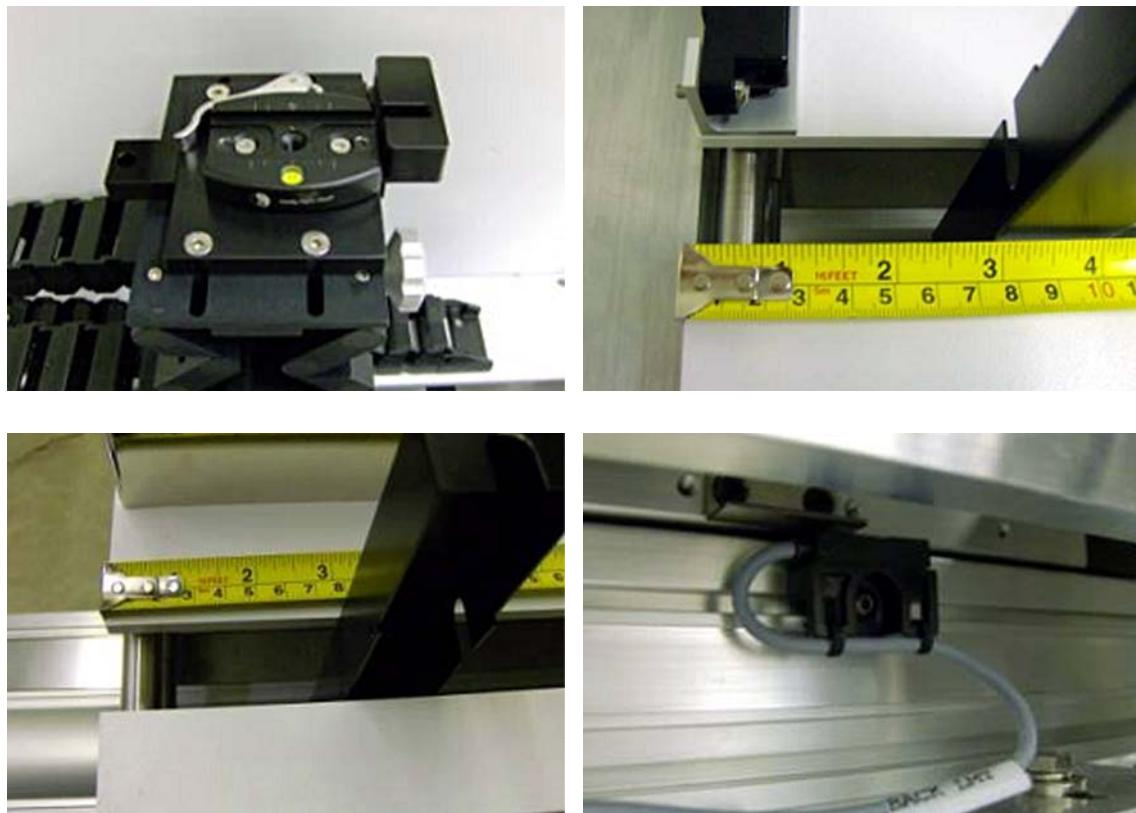
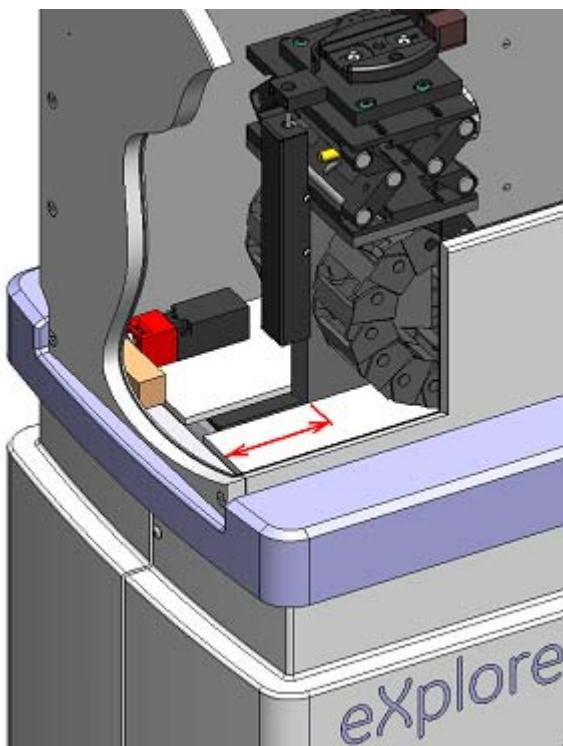
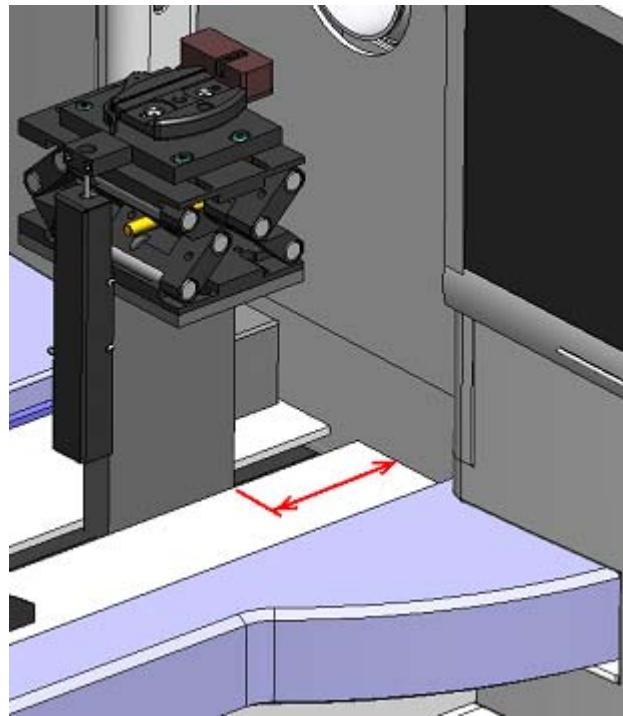

Figure 4-3
Figure 4-4
Figure 4-5
8. Remove the cradle from the stage assembly if one is present (Figure 4-3 top left).
9. Register the table. The stage should stop approximately 75 mm from the end of the bed (Figure 4-3 top right) and (Figure 4-4).
10. Use the Touch Screen to carefully advance the stage to the other end of the bed, where it should stop within 75 mm from the end (Figure 4-3 bottom left) and (Figure 4-5).
11. Adjust the limit switches if necessary (Figure 4-3 bottom right).